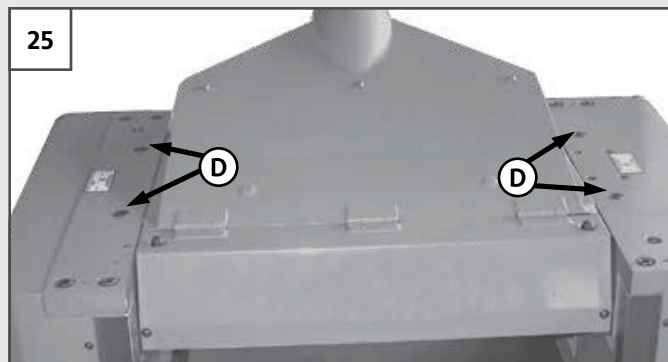

FIGURE 25: LUBRICATING ROLLER SPRINGS
- Lubricate the spring rollers via the four **SET SCREWS (D)** after every 30 hours of operation. Use all-purpose oil. See Figure 25.